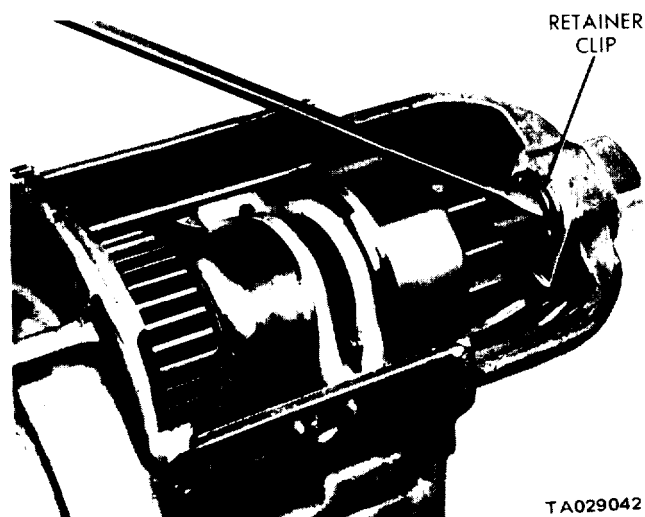
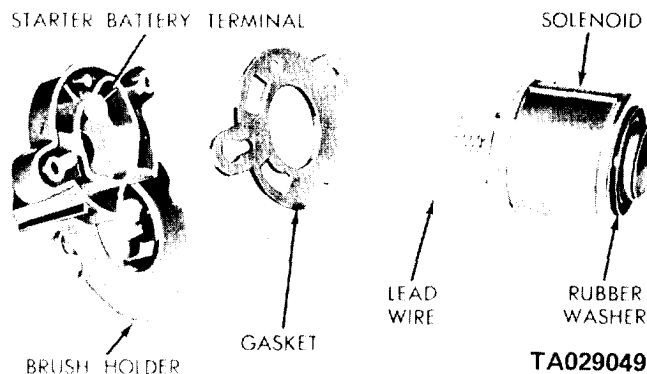

Figure 15-15. Removing Pinion-Shaft Retainer Clip.
Figure 15-22. Assembling Solenoid to Brush Holder Assembly.
- o. Remove the pinion-shaft retainer clip (figure 15-15).
- (7) Install the pinion-shaft retainer clip (figure 15-15).
- (8) Put the starter-solenoid return spring into the bore of the movable core. Inspect the condition of the starter solenoid switch contacting washer. If the top of the washer is burned from arcing, disassemble the contact switch plunger assembly and reverse the washer.
(9) Install the solenoid contact plunger assembly into the solenoid. Make sure the contact spring is positioned on the shaft of the solenoid contact plunger assembly.
(10) Assemble the battery terminal stud in the brush holder. Inspect the condition of the contacts in the brush-holder plate. If they are burned, replace the brush holder with brushes and contacts as an assembly.
(11) Position the seal on the brush-holder plate.
(12) Put the solenoid lead wire through the hole in the brush holder (figure 15-22) and install the solenoid stud, the insulating washer, and the washer and nut.